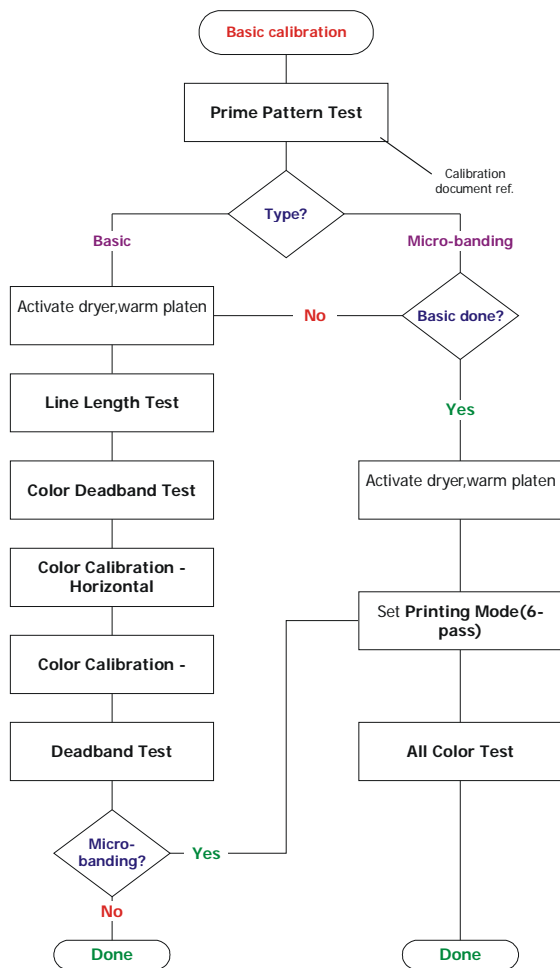

Figure 1. General Calibration Procedure
- *For general calibration* – use flowchart in Figure 1.